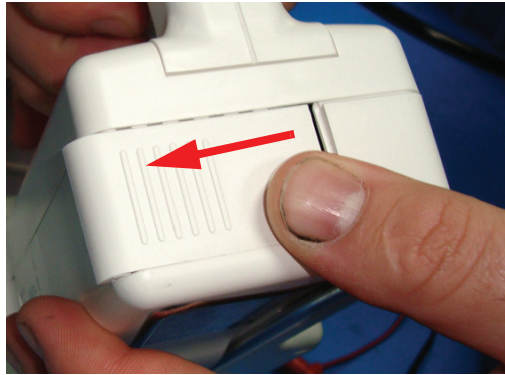

Figure 3-9 Unlatch Battery Compartment Door
1. To remove the battery, open the door to the battery compartment by sliding the door to the left to unlatch it. See Figure 3-9.